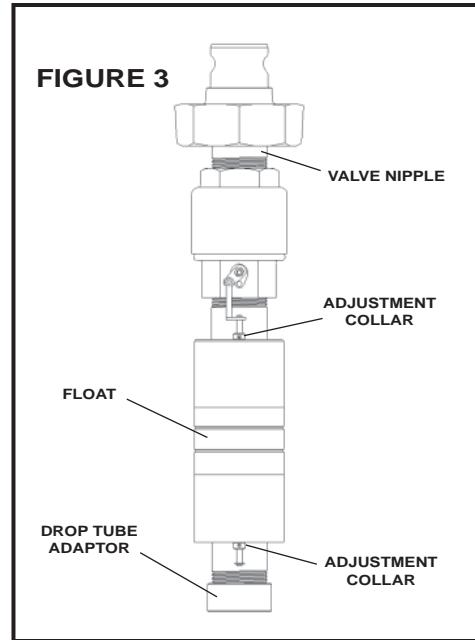

FIGURE 3
5. Move your float into the up position. Now the line that you marked on the float (Step 2) is at the point where the valve will shut off during the filling process. Measure from the line on the float all the up to the point where the valve will thread onto the piping. We will call this Length X (See Fig. 3). Record this length.
6. Now you can make piping adjustments to insure that the line on the float will be in the tank at your desired shut off point when the unit is installed into the tank. To make these adjustments you can lengthen or shorten the Nipple shown in Fig. 3. You can also change the Riser Distance shown in Fig. 1. Lastly, you can make minor adjustments by moving the floats up or down. To do this loosen the allen screws on the float adjustment collars, shown in Fig. 3, move the floats up or down, and then tighten the allen screws.